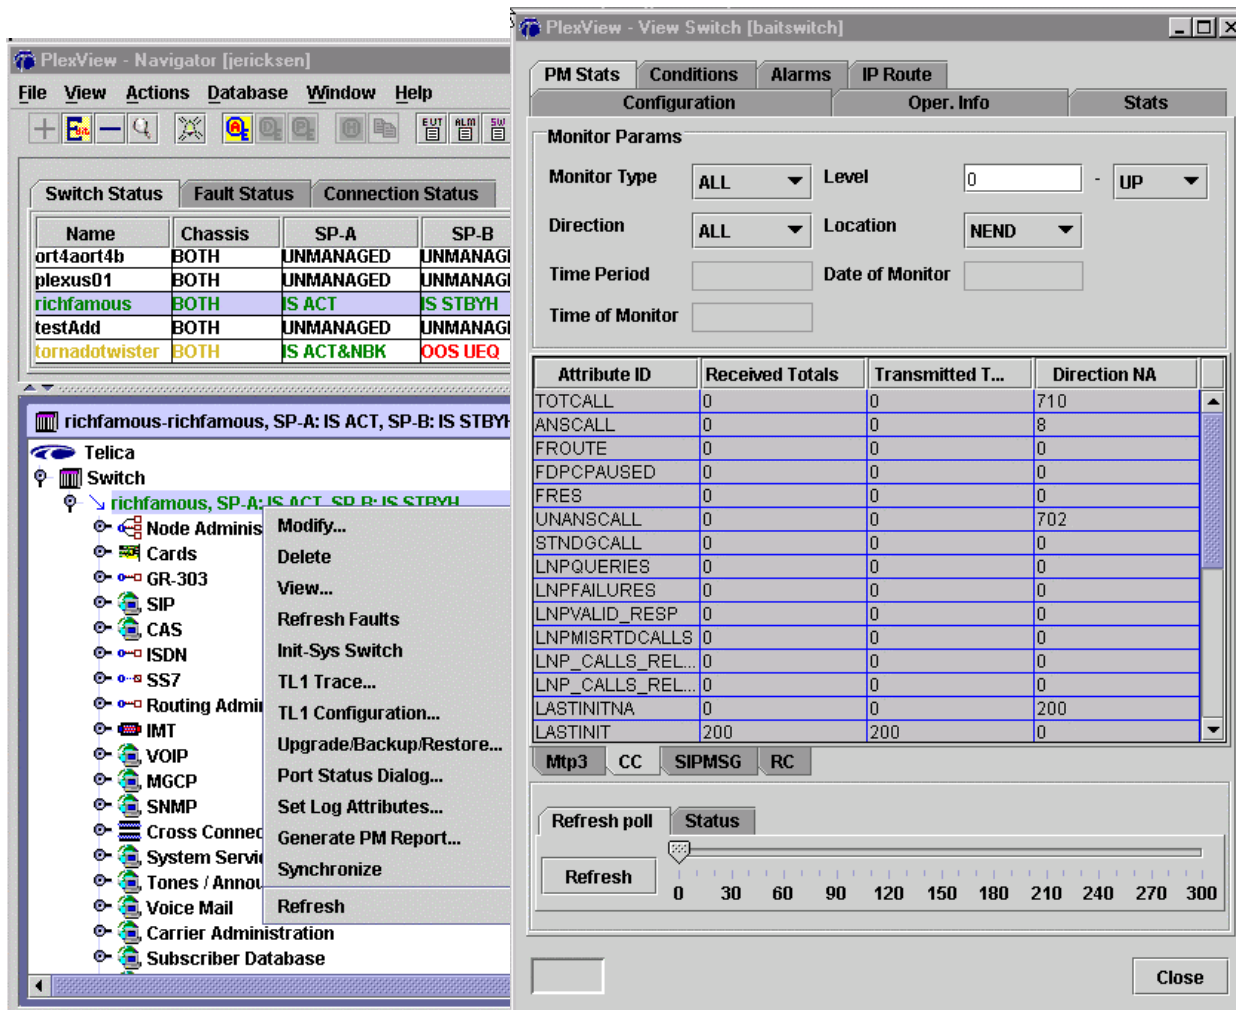

Figure 2. Call Control PM Statistics
7. Retrieve current and historical performance data for call control by right-clicking the switch name in the switch status panel or double-clicking the switch to select it for the main panel and then right-clicking the switch name. Then select *View* or *Modify*, *PM Stats* and click *CC* and *Refresh* near the bottom of the panel for latest information. See Figure 2.
9. Clear the counters for call control statistics. Right-click the switch name in the switch status panel or double-click the switch to select it for the main panel and then right-click the switch name. Then select *Modify, PM Stats* and click *CC*. Make the desired changes. See Figure 2.